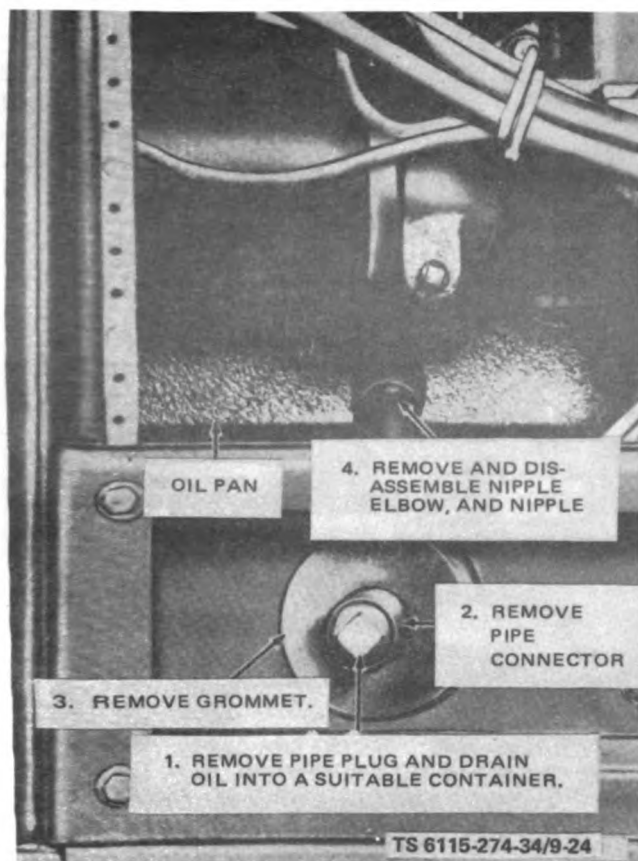

Figure 9-24. Oil Pan Drainpipe, Removal and Installation
- (5) Remove nuts, screws and clamps holding electrical leads to battery box.
- (6) Remove thermostat. Tag and disconnect electrical leads.
- (7) Loosen hose clamp and remove drain hose.
- (8) Remove nuts and screws that secure battery box support to front engine mount and remove support.
- (9) Remove nuts and screws holding battery box to frame and remove battery box.
- (10) Remove pipe plug and drain oil into a suitable container (fig. 9-24).
- (11) Remove pipe connector.
- (12) Remove grommet.
- (13) Remove nipple, elbow and nipple.
- (14) Disconnect heater exhaust pipe.
(6) Connect heater exhaust pipe.
(7) Install nipples and elbow (fig. 9-24).
- (8) Install grommet and pipe connector.
- (9) Install pipe plug and service crankcase with proper oil.